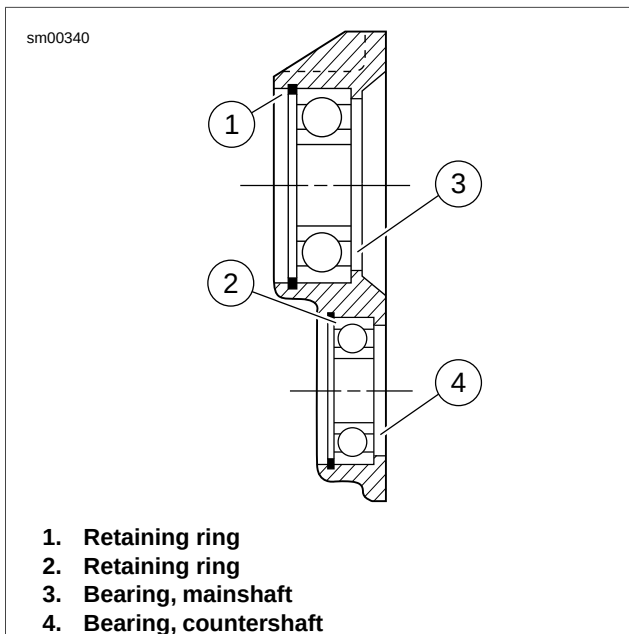

Figure 6-84. Ball Bearing Assembly
3. See Figure 6-84. Inspect the mainshaft (3) and countershaft (4) ball bearings for pitting, scoring, discoloration or other damage.